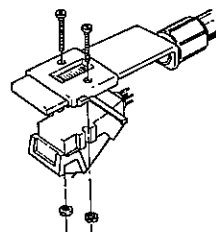

Fig. 3
1. Attach the cartridge to the cartridge shell lightly, using screws and nuts (Fig. 3).